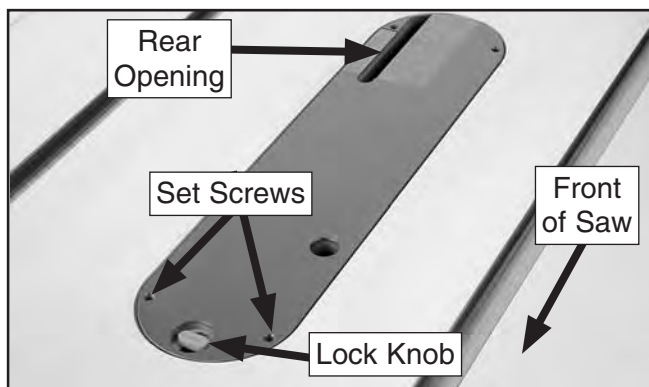

Figure 57. Insert knob in lock position.
3. Install the table insert, as shown in **Figure 57**.
—If you do not require your insert to have a zero clearance fit, especially if you need to make a range of compound cuts, you can modify the insert included with this saw. Follow **Step 7**, then route the underside of the blade-cut slot to the same width as the rear opening (see **Figure 57**).